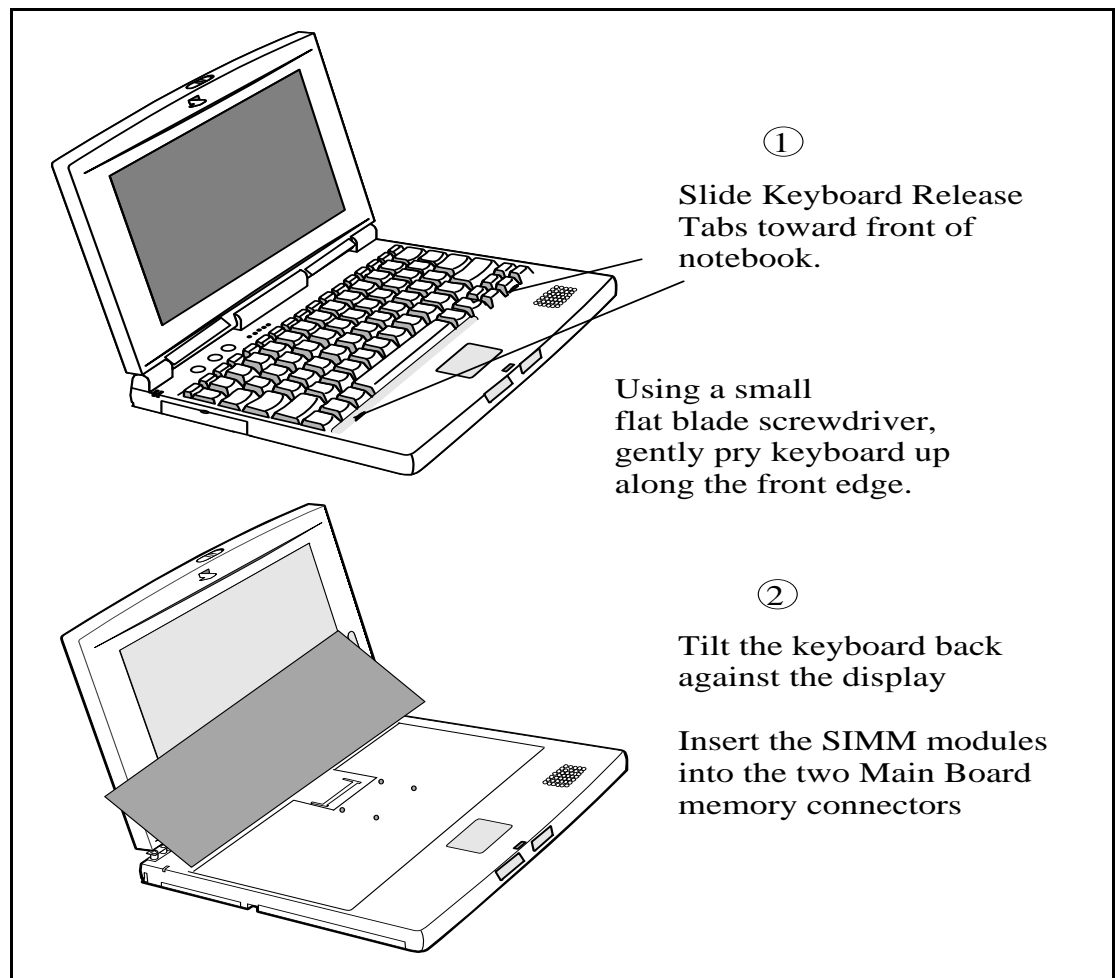

Figure 2-1 Installing Additional Memory
The packaging diagram for the notebook computer is shown in Figure 2-1. Unpack the computer using the following instructions:
6. Insert the edge of the DIMM Board into the lower connector (refer to Figure 2-1). Use a rocking motion to fully insert the module. Push downward on each side of the DIMM module until it snaps in place.